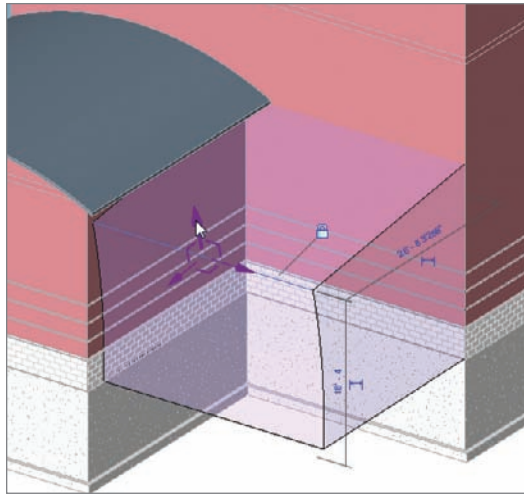

FIGURE 16.46 Creating the roof slope
13. Click the arrow facing up and drag the edge down, causing a slope. You can eyeball the distance, then type 18' 4" in the temporary dimension, as shown in Figure 16.46.